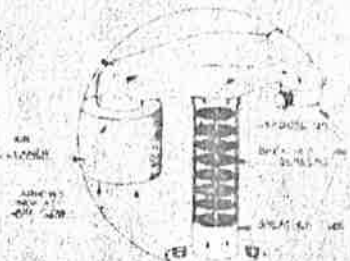

Figure 4. Air Cleaner, Crankcase Breather Tube and Breather Strainer.
10. Air Cleaner—Remove the air cleaner (See Fig. 4) and wash it out in petrol. Allow it to dry, then put a light oil on the filter element. Allow the excess oil to drain out, then replace the air cleaner.